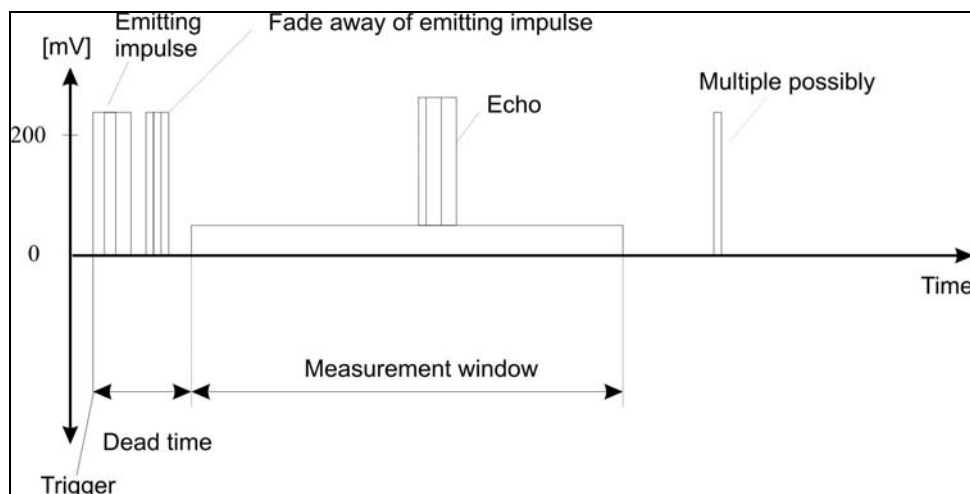

Fig. 1: Signals at the output of the test-socket seen by an oscilloscope
- In case there are no echoes visible as depicted in Fig. 1, increase the sending pulse energy (**P 03**) and/or the receiver amplification (**P04**) until the ultrasound signals are clearly observable.